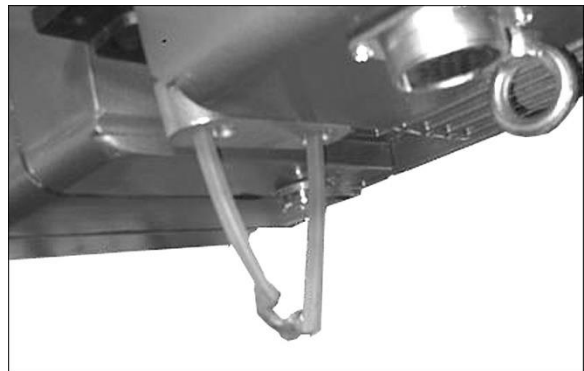

Figure 13-2
6. Insert chain puller through hoist as shown in Figure 13-2.
4. On the slack end of the chain, remove the chain stop, spring, and limit block (Figure 13-2). Keep these handy for later re-installing.